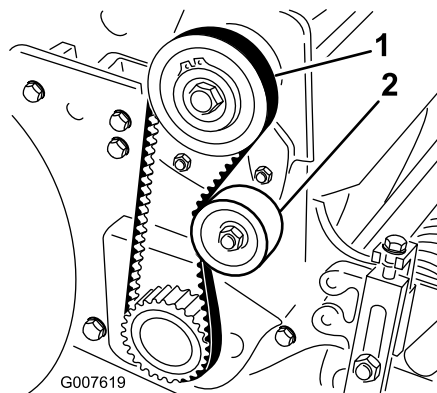

Figure 25
2. Check the tension by pressing the belt at mid span of the pulleys (Figure 25) with 3 to 5 lb of force. The belt should deflect 1/4 inch (0.63 cm).
- A. Loosen the idler pulley mounting nut and pivot the idler pulley clockwise against the backside of the belt until you attain the desired belt tension (Figure 25).